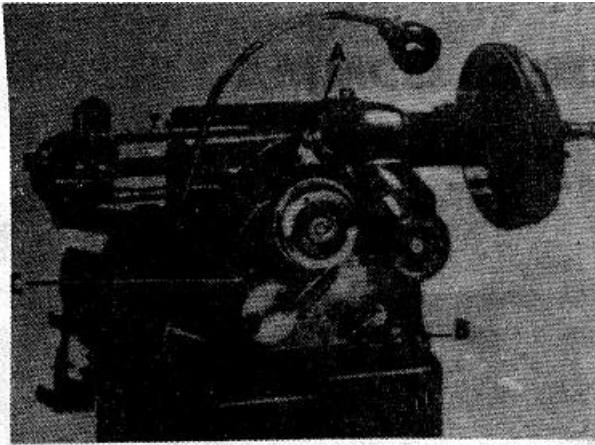

FIGURE 1
1. Take out Dip Stick (Figure 1) and pour in approximately one pint of S.A.E. 40 motor oil or enough to bring the level to the mark on the Dip Stick. Keep oil at this level at all times. Drain the oil and refill with clean oil after the first 8 hours of operation. After this the oil need be changed only about once a year.
4. The Drive Motor (Figure 1) has sealed-for-life ball bearings and does not require any lubrication.
The V-Belt position controls the Spindle speed. It may easily be changed by throwing over the Quick Change Lever (Figure 1). Following are recommendations for Spindle speeds for various applications. They apply to grinding as well as turning. As a general rule, smaller passenger car drums are turned at higher speeds and large truck drums at lower speeds. If chatter or a poor finish results, change to the next slower speed.